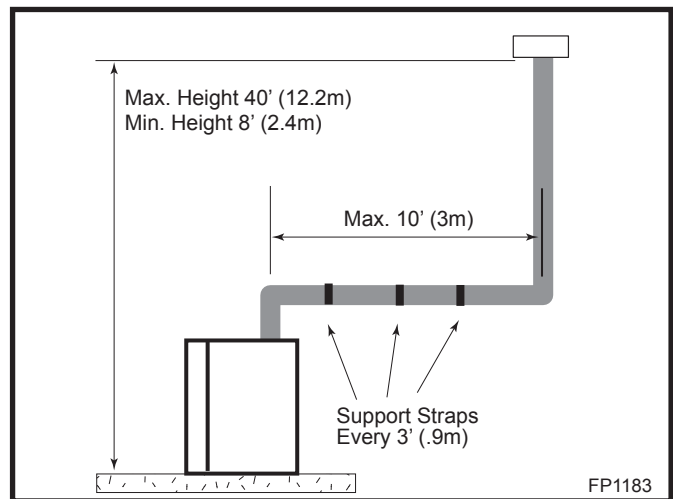

Fig. 23 Support straps for horizontal runs.
- Vertical installations up to 40' (12 m) in height. Up to a 10' (3 m) horizontal vent run can be installed within the vent system using a maximum of two 90° elbows. (Fig. 23)